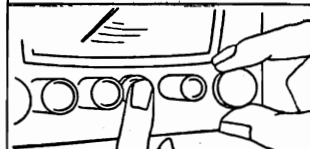

FIG. 3 Tune in station with button pressed in firmly.
2. Push the button in as far as it will go and, holding it in firmly, tune in the desired station by means of the selector knob. See Fig. 3.